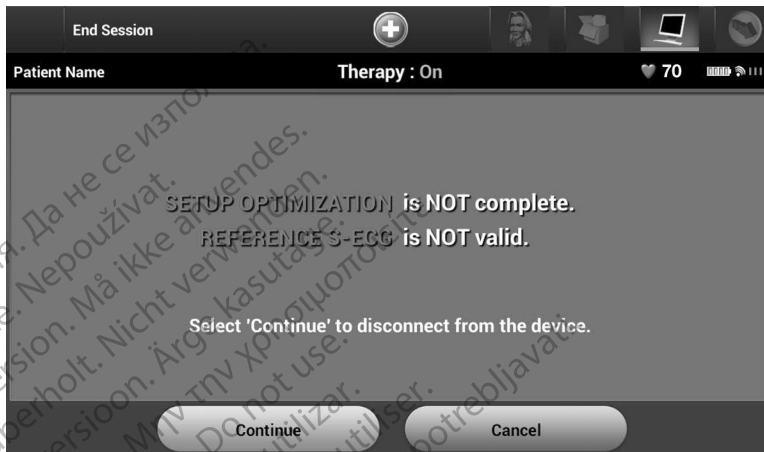

Figure 9: Session incomplete message
3. Warning messages (Figure 9) will be displayed to the user if any of the following conditions exists: